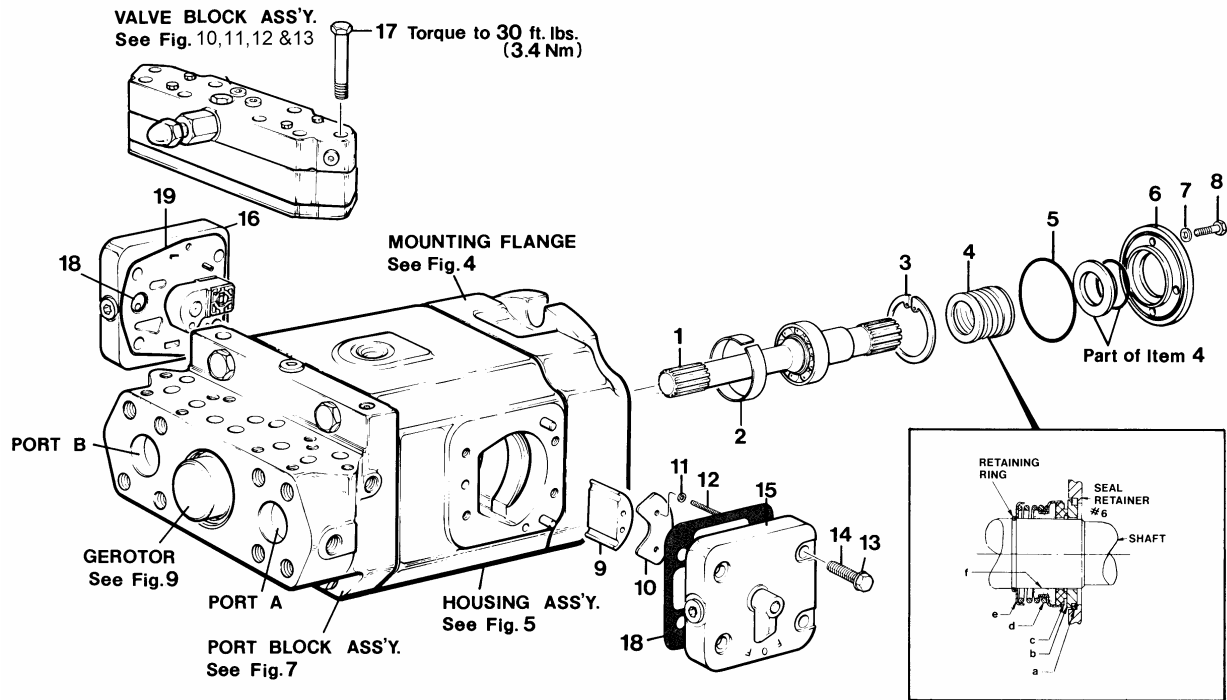

FIGURE 14
**PARTS LIST FOR FIGURE 14**
See Figure 14